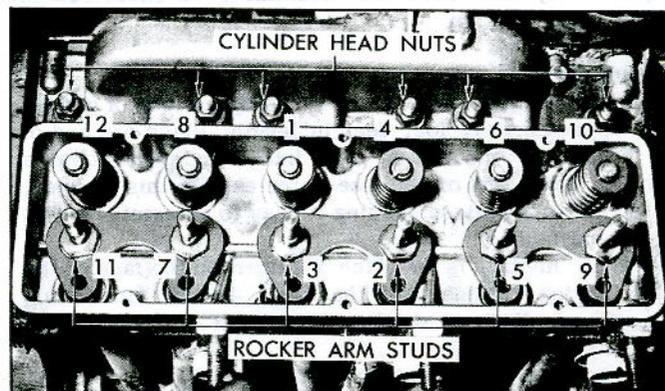

Fig. 34—Cylinder Head Torque Sequence
- Torque rocker arm studs to 10 ft. lb. below specifications, then torque cylinder head nuts and rocker arm studs a little at a time in the sequence shown (fig. 34) until the specified torque is reached.
Torque cylinder head nuts and rocker arm studs, a little at a time, in the sequence shown (fig. 34) until the specified torque is reached.